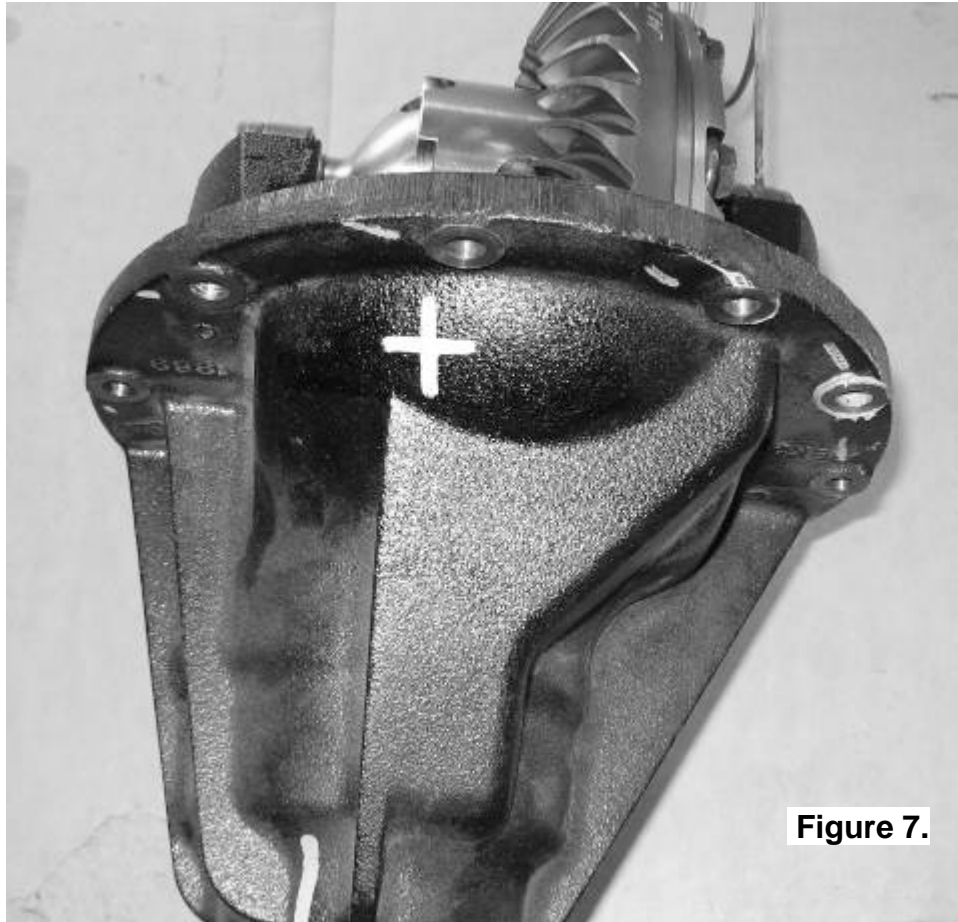

Figure 7.
- ☐ Mark a spot on the exterior of the differential housing toward the top in an area that will be well clear of the *Air Locker* body, the ring gear, and any other obstructions that could snag the seal housing tube. (Fig.7.)